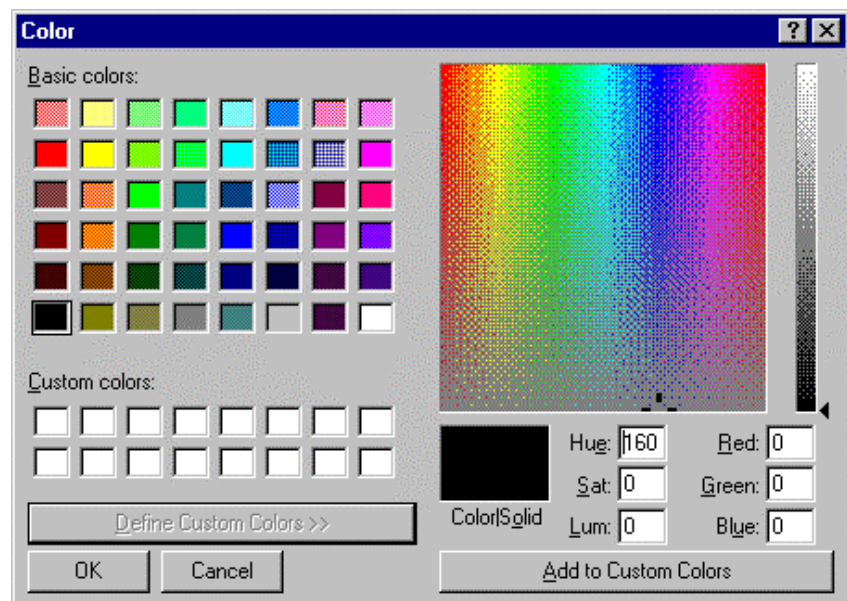

Fig. 1-37 Addition of Color
The dialog box shown in Fig. 1-37 will appear. Select hue, saturation, luminance, etc. and click **Add to Custom Colors (A)**. Your color is then added to the custom colors. So select it and click **OK**.